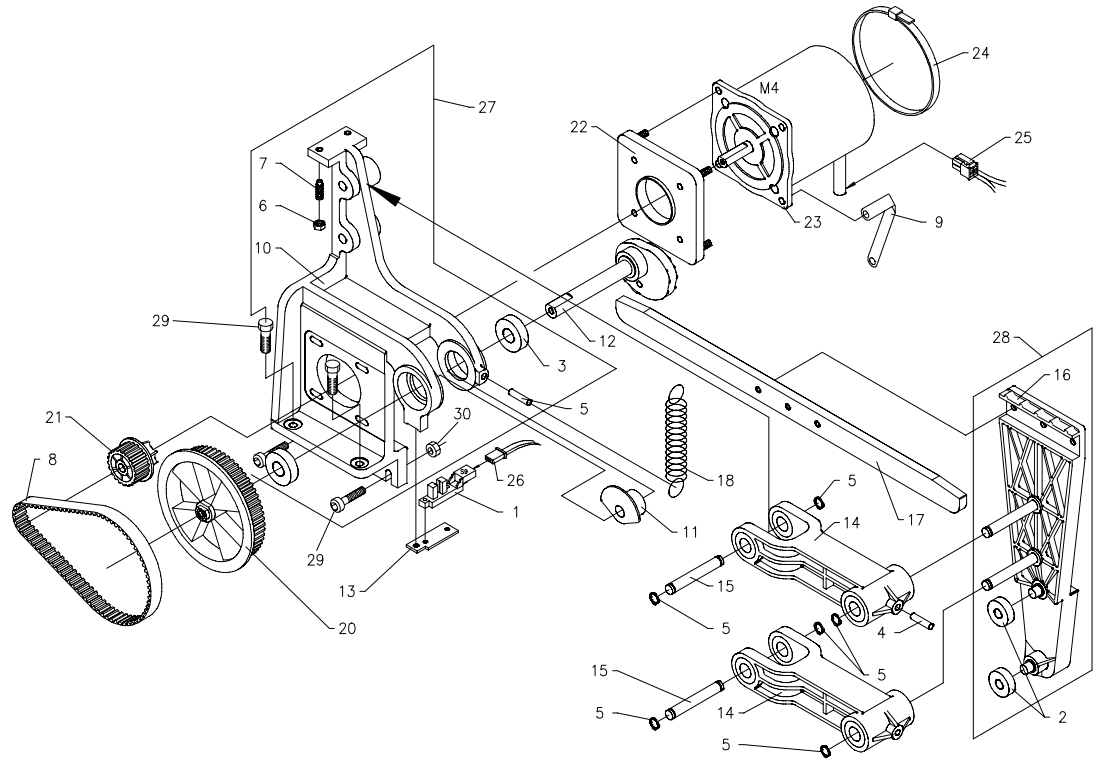

Figure 7-34
7. Loosen the two retaining bolts (Item 29, Figure 7-34) and two retaining nuts (Item 30, Figure 7-34) at the base of the cam assembly. Loosen slightly, the dogpoint setscrews at the top (Item 7, Figure 7-34).
9. Retighten all screws. When tightening the alignment setscrews at the top, avoid overtightening them as they can bend the side clamp linear actuator case. When the jam nuts (Item 6, Figure 7-34) are tightened, the setscrews will be held securely.
The cam encoder disk (Item 11, Figure 7-34) allows the CPU to accurately position the cam to provide the three side clamp openings - closed, small opening, large opening. If the encoder is not positioned properly, the machine will not run and status code 41 or 42 will be displayed.